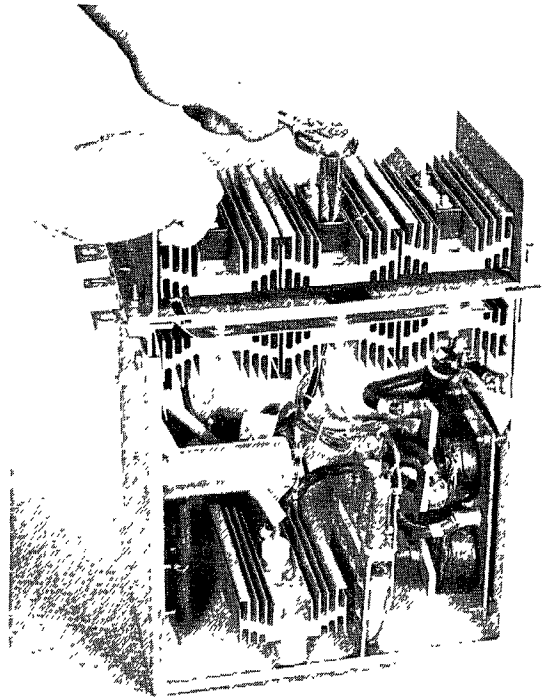

FIGURE 15
6. Remove the bolt, two flat washers and nut that hold the heatsink associated with the defective SCR cell to the DC bus (P1 or N1). See Fig. 15.